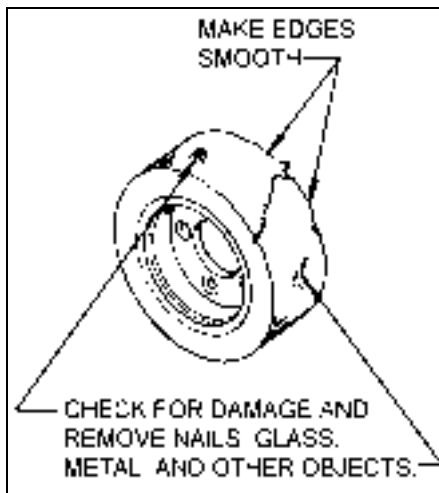

Figure 5-1 Tire wear and Damage
1. Inspect the tire for chunking or embedded objects. See Figure 5-1. This is caused by running over objects on a littered floor, overloading or bad driving habits - i.e. sharp, rapid turns at high speeds or rapid starts and stops.